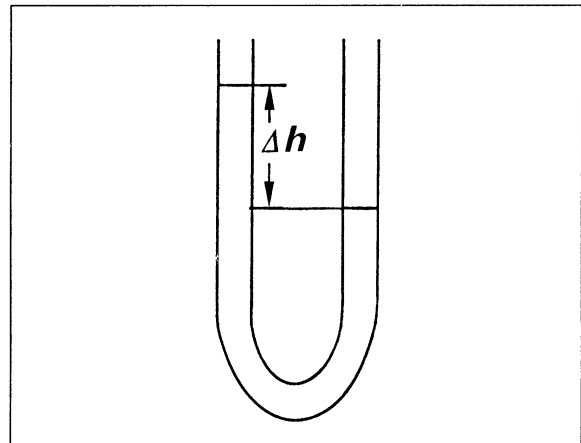

Fig. 3 Setup for measuring the difference in height Δh in the manometer.
11. Measure the difference in height Δh of the water levels in the manometer pipes and enter the results in table 1. (Fig. 3)